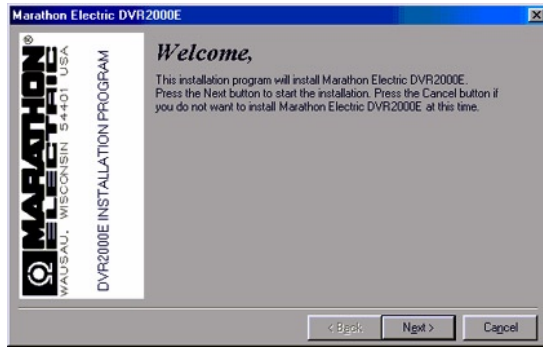
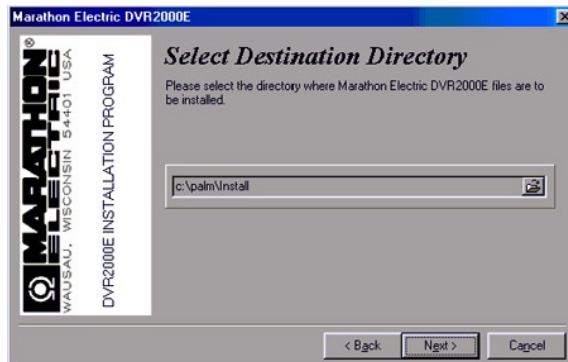

Figure 6-1. Welcome Screen
Figure 6-2. Selection Destination Directory Screen
2. When the DVR2000E Setup and Documentation CD menu appears, click the Install button for the Palm OS® Program. The setup utility starts and displays the Welcome Screen of Figure 6-1. Click the **Next>** button to view the Select Destination Directory Screen (Figure 6-2).